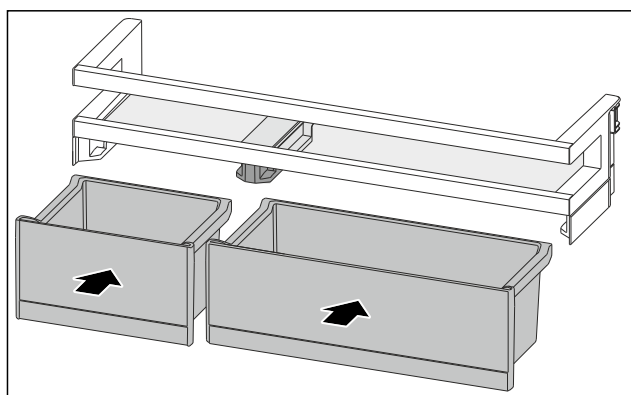

Fig. 86
- Insert the VarioBoxes opposite order. (see Fig. 86)